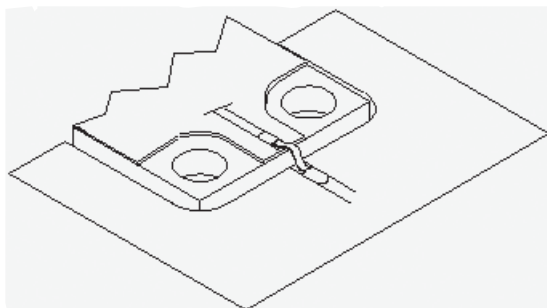

Figure 2
1) To facilitate integration, the traces on Spectrum Microwave's carrier mixers are tin plated or coated with a solderable alloy. When interfacing to a printed circuit board with a solderable trace, the simplest and most cost effective interface is made with a tin plated copper ribbon (Figure 2). The ribbon is first soldered to the interfacing trace, a small stress relief is formed, and the other end of the ribbon is soldered to the mixer trace. An exaggerated stress relief can cause performance degradation. The ribbon should be .010 to .150 inches wide (.254 to 3.81 mm) for an optimum interface.